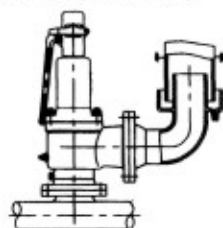

Figure 4
2) Supports are recommended that to prevent piping strain (install strain and thermal expansion) of piping that will influence the valve performance. Figure 4 is one of discharge piping installation